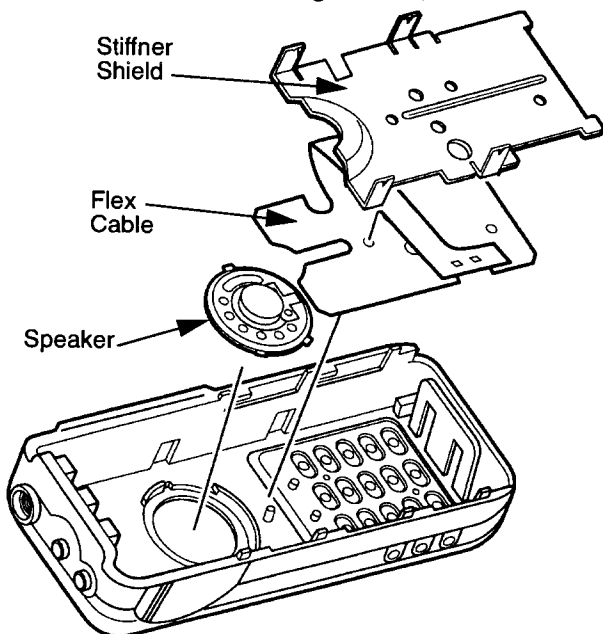

Figure 1-10. Speaker Assembly
4. Remove stiffner shield (Figure 1-10).
5. Remove flex cable (Figure 1-10).
6. Lift out speaker (Figure 1-10).
1. Align tabs on speaker with slots on housing and insert speaker (Figure 1-10).
2. Insert flex cable into housing and align pins (3) through holes on flex cable (Figure 1-10).
3. Insert stiffner shield into housing and align tabs with slots on side of housing (Figure 1-10).